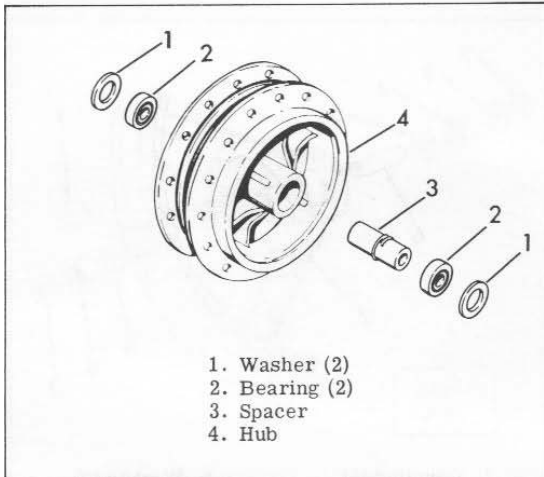

Figure 2.4. Disassembling Front Wheel Hub
Remove front wheel and brake assembly from motorcycle as described in "REMOVING AND INSTALLING FRONT WHEEL." Separate and remove brake assembly from hub. Using a screwdriver, pry out washer (1), Figure 2.4, and remove ball bearing (2). Pull out bearing spacer from inside hub. From opposite side, remove other washer (1) and bearing (2).